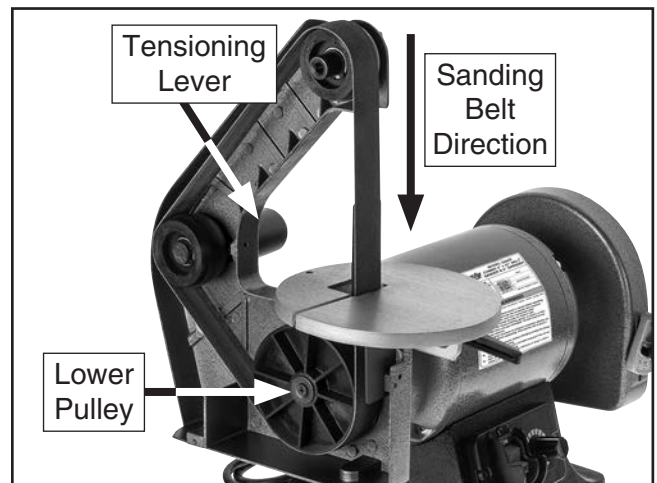

Figure 18. Location of sanding belt tensioning lever.
5. Roll old belt off pulleys (see **Figure 18**), then install new sanding belt.